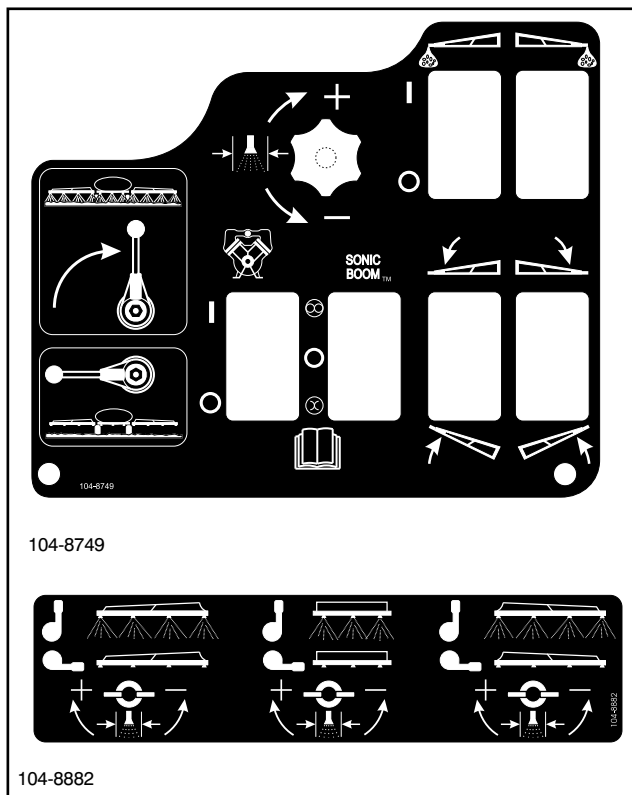

FIG. 2
5. PUMP ON/OFF SWITCH: Move to "ON" position to engage the Diaphragm Pump. Move to "OFF" position to disengage Diaphragm Pump. See FIG. 2 on this page and Operating Instructions, page 22.